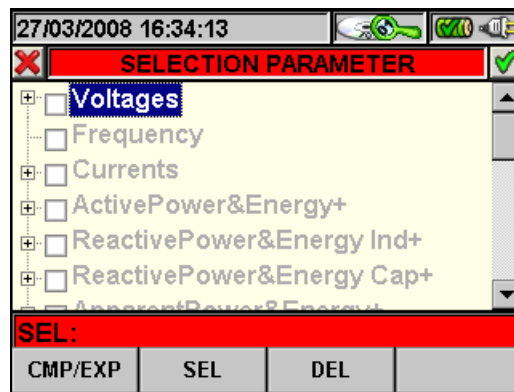

Fig. 117: Parameter selection
1. Press the **F1** key (or the **PARAM** item on the display) to access the page containing the recorded quantities available for the analysis (Fig. 117).
- **F1** key (or **PARAM** item on the display) to access the page of the selectable parameters (Fig. 117).